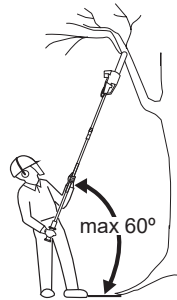

Fig. 26
5. Always hold the product at an angle of not more than 60° from the horizontal level. Otherwise safe operation is not possible (Fig. 26).